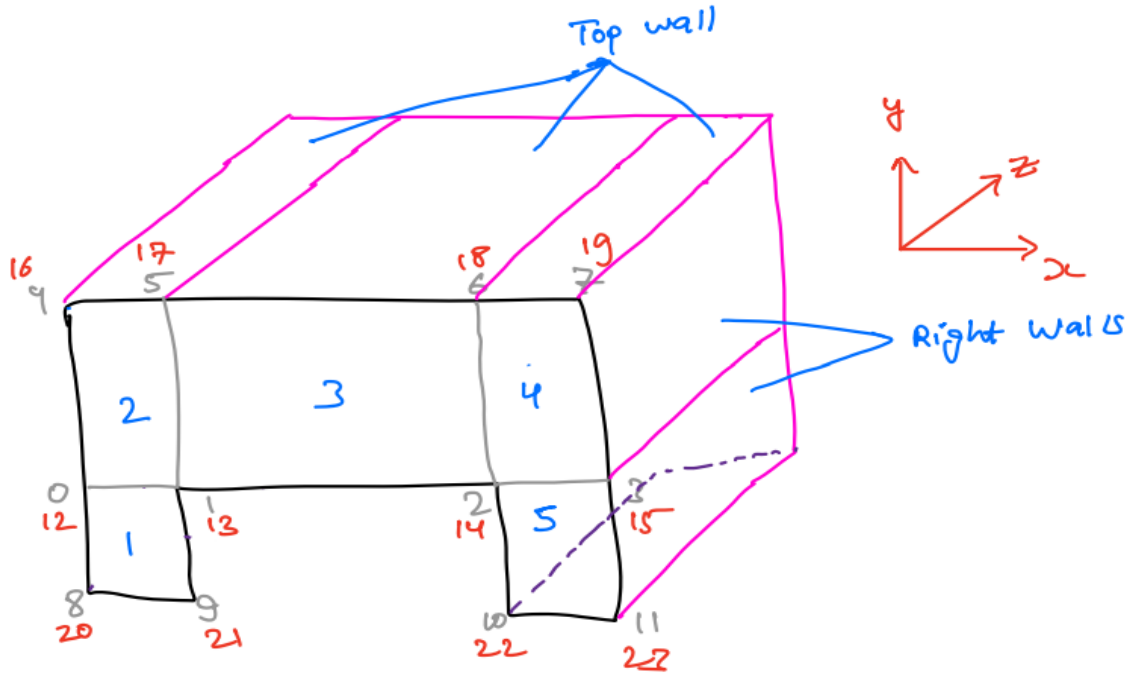

Figure 4
Figure 4 is the cooling plate geometry in 3D.
3. Divide the **Figure 4** geometry into five blocks (1,2,3,4,5)